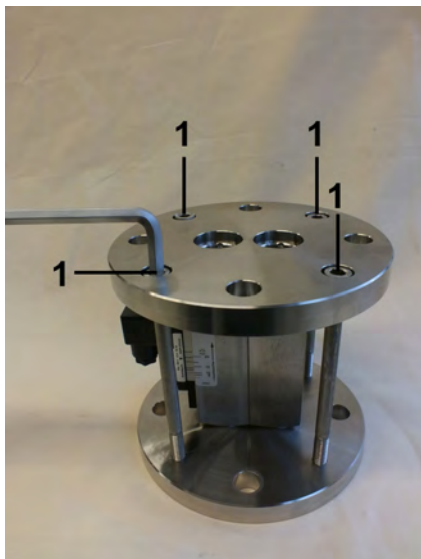

Fig. 35: Loosen flange connecting bolts (outlet)
1.  Loosen the flange connecting bolts (Fig. 35/1) using the appropriate size offset hex-key